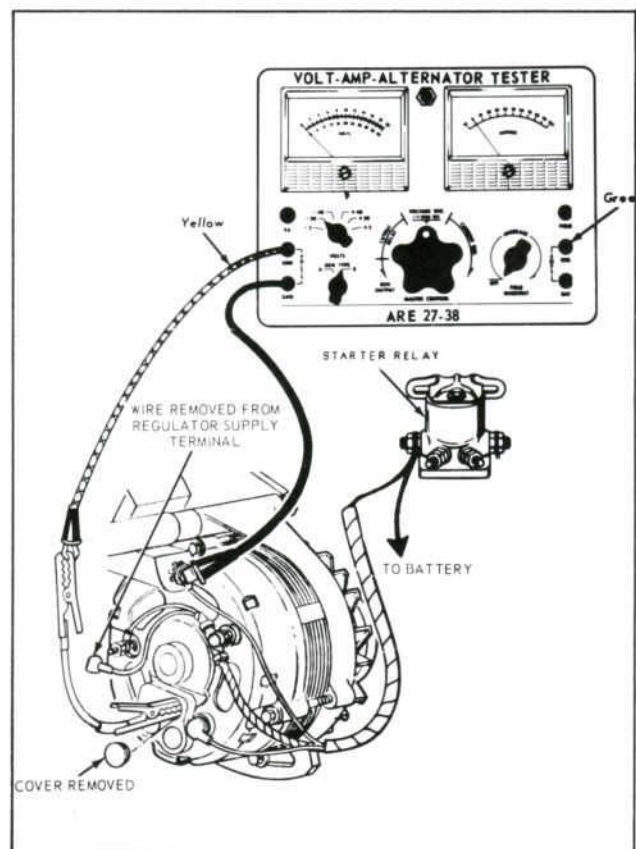

Figure 6—Field Voltmeter Test
2. Connect the tester, and make the tester knob adjustments as shown in Fig. 6, Field Voltmeter Test. Open the battery adapter switch.